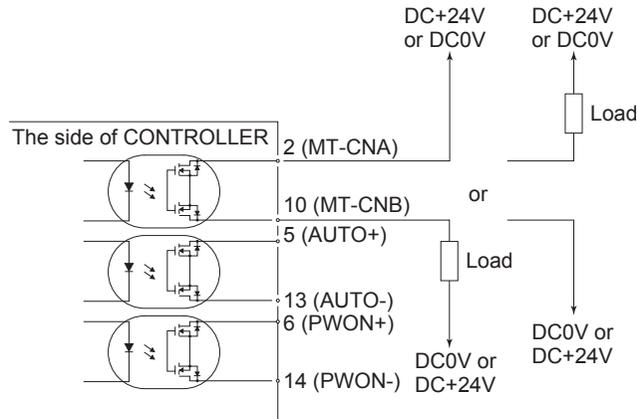

Fig. 44
- Applied Voltage (V)  $\leq$  DC+30V
Use an external power source for output circuits. It is recommended to use a separate power supply Input / Output Connector B ④ . Please refer to Fig. 44 for connections.